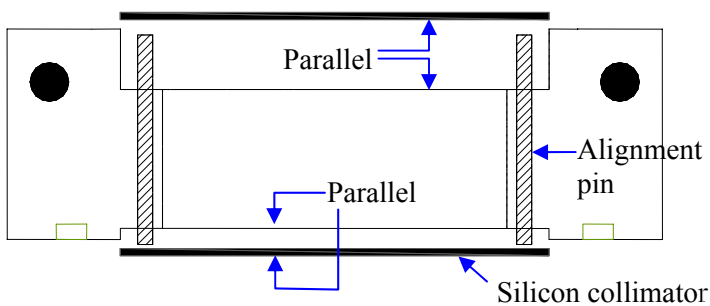
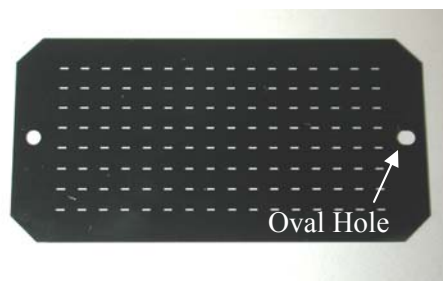

Fig. 7 Sectional view of the metal holder and the collimators
Fig. 8 Silicon collimator
The top and bottom collimators are precisely aligned to one another by mounting them onto the alignment pins in the metal holder as shown in Fig 7. The two alignment holes in each collimator for mounting onto the alignment pins of the metal holder have high tolerances (10 μ m) and align the collimators to the nearest 10 μ m in *x* and *y* direction. See below for a step by step procedure on how to assemble the printhead.
- b) Wearing powder and oil free gloves mount the bottom collimator onto the alignment pins at the bottom of the metal holder and make sure the tapered side of the collimator holes faces toward what will be the top of the printhead when mounted to the motion control arm. The collimator must be kept parallel to the holder surface as it is placed onto the two alignment pins to avoid chipping the high precision alignment holes in the collimator (see Fig. 7). In order to retain the high tolerances of the alignment holes and still make them easy to mount, one of the alignment holes is oval shaped (see Fig. 8). This provides extra room for the high tolerance collimator holes while mounting and eases the collimator mounting procedure as compared to two circular alignment holes. After mounting the bottom collimator gently place the magnetic stainless steel plate on top of the collimator.